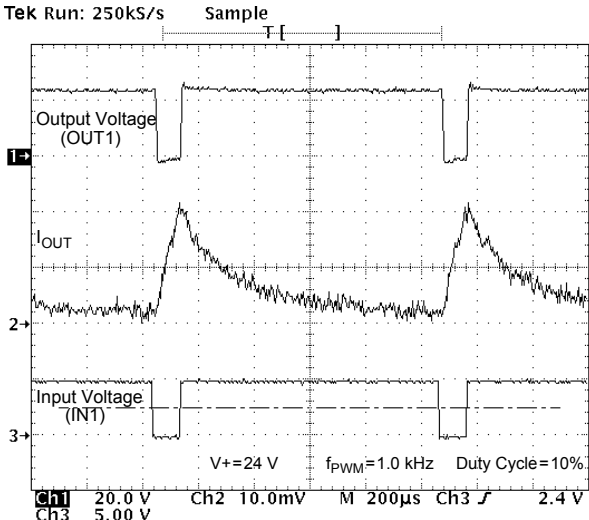

Figure 10. Output Voltage and Current vs. Input Voltage at $V+ = 24 \text{ V}$, PMW Frequency of 1.0 kHz, and Duty Cycle of 10%
20. The outputs can be PWM controlled from an external source. This is typically done by holding one input high while applying a PWM pulse train to the other input. The maximum PWM frequency obtainable is a compromise between switching losses and switching frequency. Refer to Typical Switching Waveforms, Figures 10 through 17, pp. 11–12.